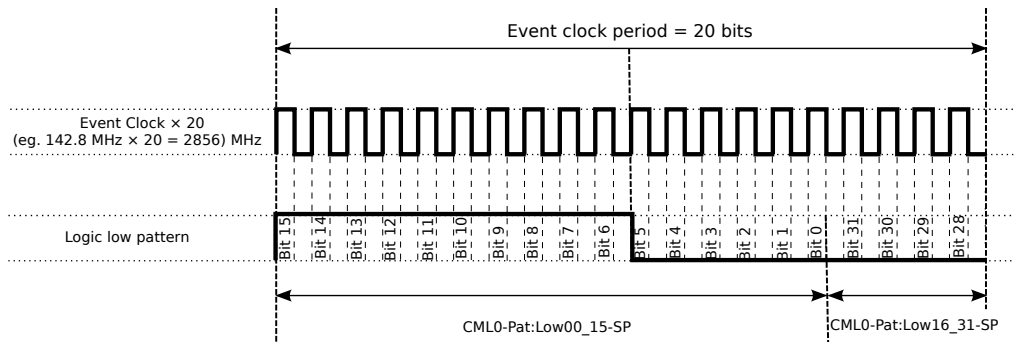

Figure 4: Generate the event clock
outputs are enabled. This causes the logic low pattern of the CML pulse mode to be continuously outputted. The configurable pattern, as seen in Figure 4, is 20 bits long and is sent out with a bit rate of 20 times the event clock rate. It is configured to replicate the event clock phase and frequency.
- `CML0-Pat:Low00_15-SP=0xFFC0`: Set logic low pattern bits 0-15. The Figure 4 shows that the bits 15-0 must be set as follows: 1111 1111 1100 0000, which translates to 0xFFC0. Each bit represents 1/20 of the event clock period.
- `CML0-Pat:Low16_31-SP=0`: Set signal low pattern bits 16-31, as seen in Figure 4. Note, that only bits 31-28 (top 4 bits) can be used.